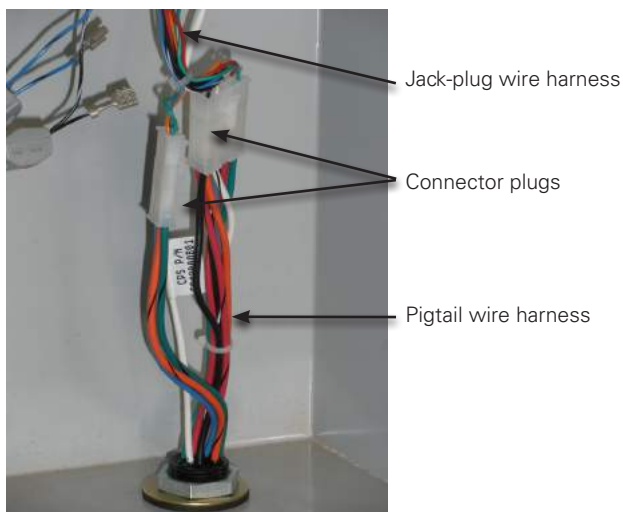

Figure 36. Connecting the jack-plug harness to the pigtail harness.
13. Link together the two connector plugs between the pigtail harness and the jack-plug harness as shown in Figure 36.